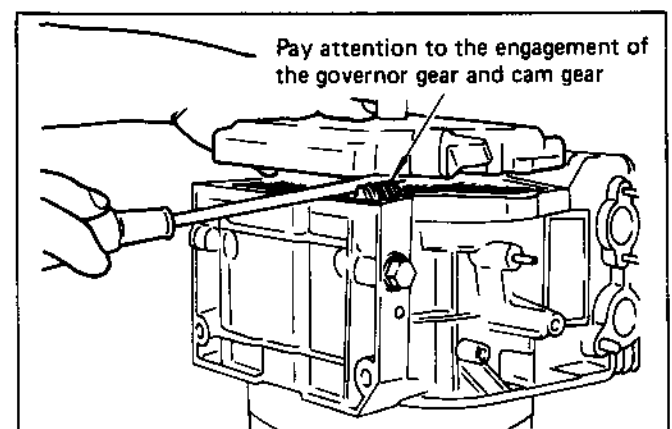

Fig. 35
**NOTE:** As the governor gear is mounted on the main bearing cover side, install the main bearing cover while checking that it meshes with the teeth of the cam gear. (See Fig. 35.) Meantime, if the oil seal need be replaced, pressure-fit a new oil seal before installing the main bearing cover.